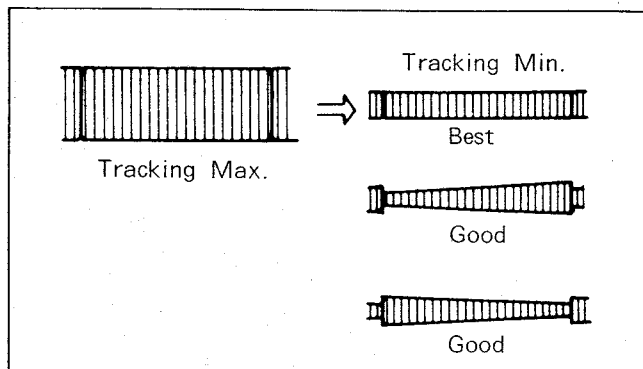

Fig. M11
8. Turn the Tracking VR from end to end. The variation of RF envelope should be nearly parallel as shown in Figure M11.
- Turn the Tracking VR from end to end and then back to the detent position. Confirm that the RF envelope output level is maximized at the detent position. (Fig.M11)